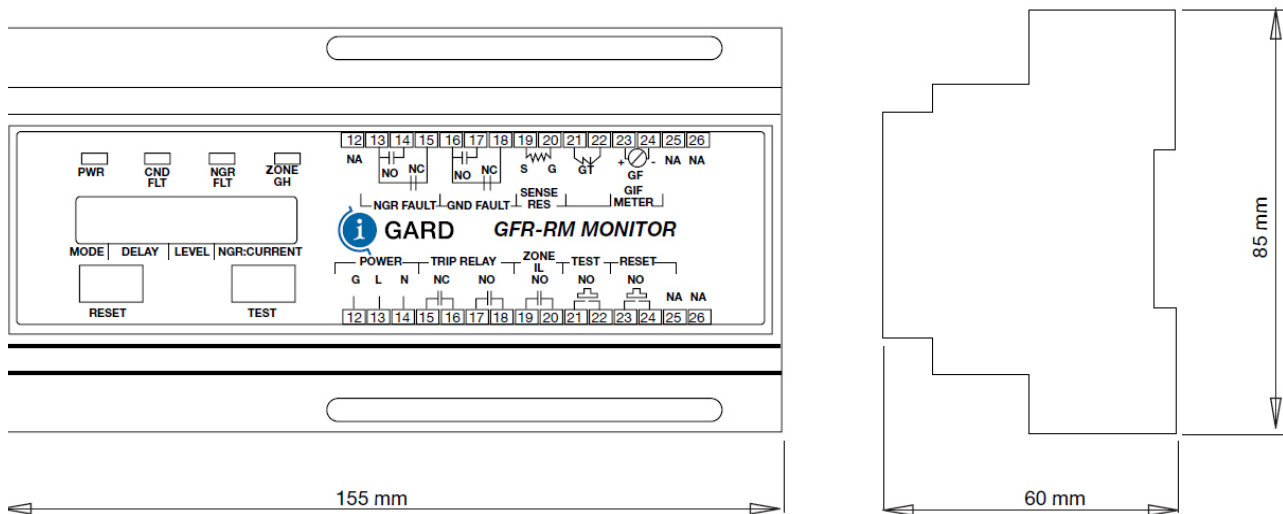

Figure 2 Sigma GFR-RM Monitor Relay Detail
9. Reconnect the conductor between terminal G of the NGRS-XX sensing resistor and the appropriate terminal on the Sigma monitor relay. Refer to Figure 2.
12. Reconnect the conductor from the R terminal of the NGRS-XX sensing resistor to the appropriate terminal of the Sigma monitor relay. Refer to Figure 2.